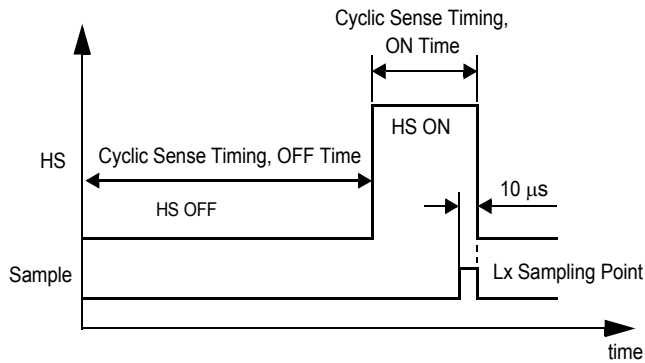

Figure 30. HS Operation When Cyclic Sense is Selected
- TIM2—Selects an appropriate timing for sensing the wake-up circuitry or cyclically supplying devices by switching the HS on or off. TIM2 is selected when bit D3 is 1 (Table 32). Figure 30, page 49, describes HS operation when cyclic sense is selected. Cyclic sense timing characteristics are described in Table 34, page 49.